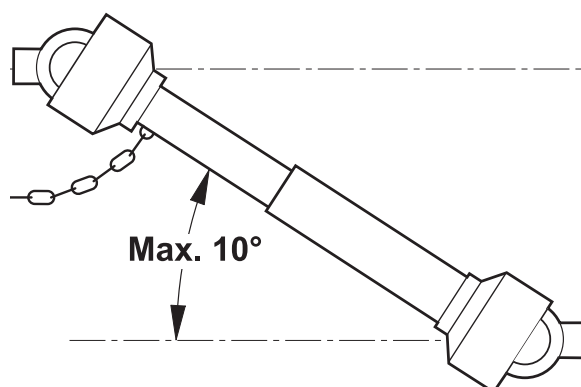

Fig.5
- 12) Always disconnect the power take-off when the Cardan shaft is at too wide an angle (never more than 10° - Fig.5) and when it is not being used.